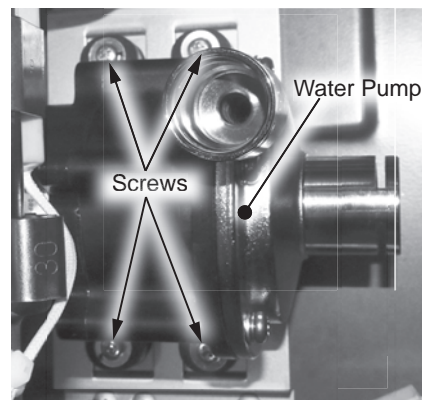

Figure 166 - Water pump screw locations
- 22** Locate the four (4) screws securing the water pump assembly to the bracket at the back side of the water heater cabinet. Use a 12" Phillips screwdriver to loosen screws so they no longer engage bracket threads. Do not remove screws from gasket boots. See Figure 166.